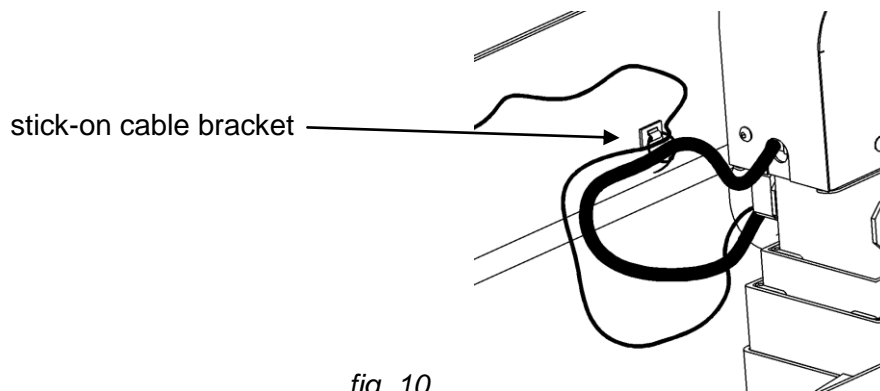

fig. 10
10. Attach the stick-on cable brackets on beam near the head at the top of the lift (fig. 10).